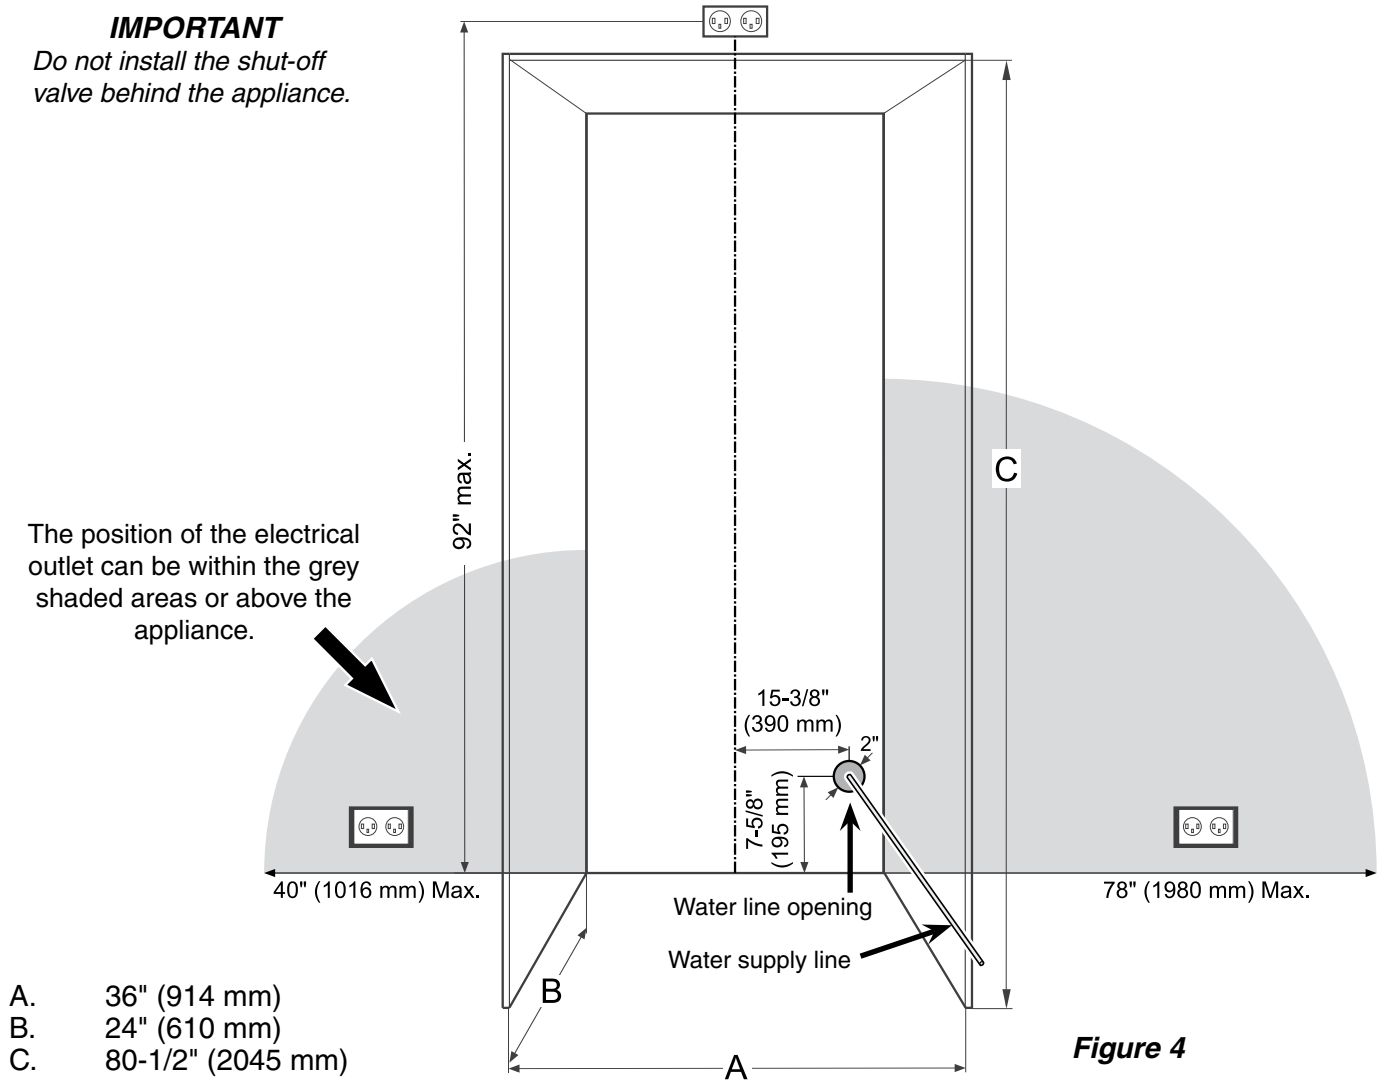

Figure 4
Cabinet Opening Dimensions - Figure 4
If semi built-in, please consider the cabinet opening dimensions as shown in **Figure 4**.
*With 24" cabinets, the water line opening must be in the location as shown in **Figure 4**.*